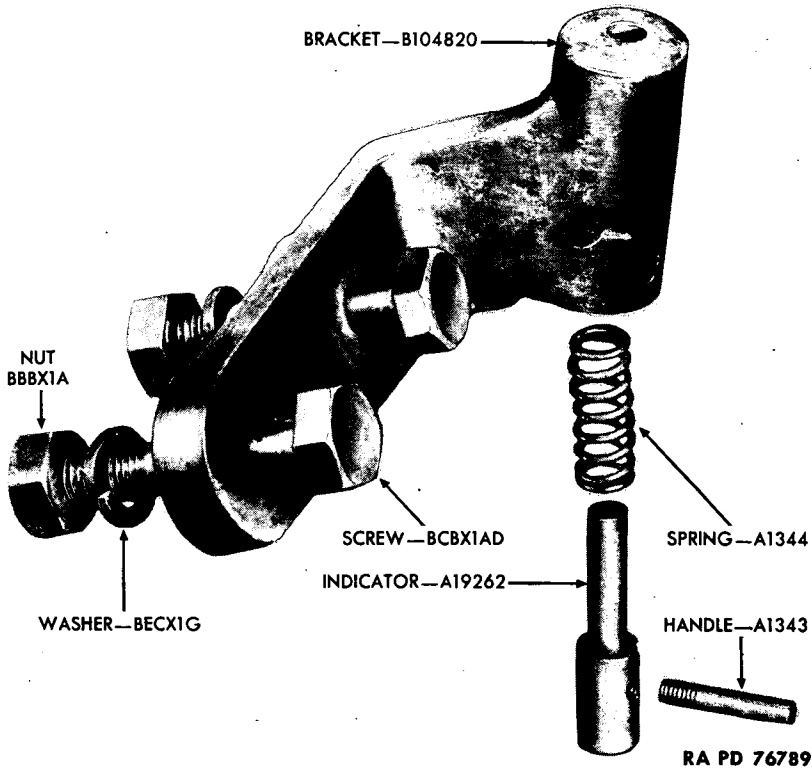

Figure 51—Recoil Indicator—Exploded View
(17) BROKEN OR DAMAGED RECOIL INDICATOR (fig. 51).